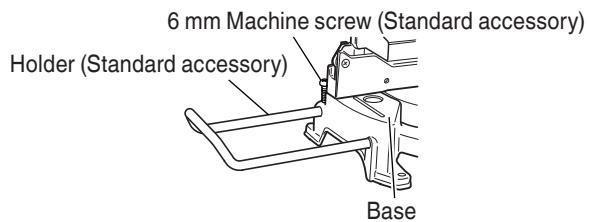

Fig. 9
- As indicated in Fig. 9, installing the holder in the holes on the side of base and fasten it with 6 mm machine screw (Standard accessory).